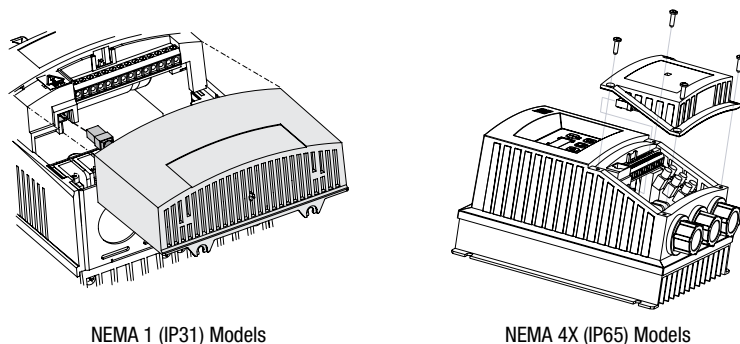

Figure 3: Re-installing the Terminal Cover
4. Align terminal cover for re-fitting, connect the module umbilical cord to the drive then close the cover and secure, as shown in Figure 3.